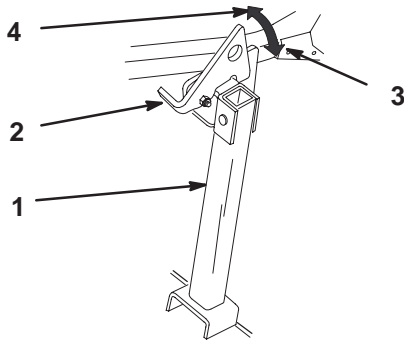

Figure 25
1. Raise latch to unlocked position (Fig. 25).